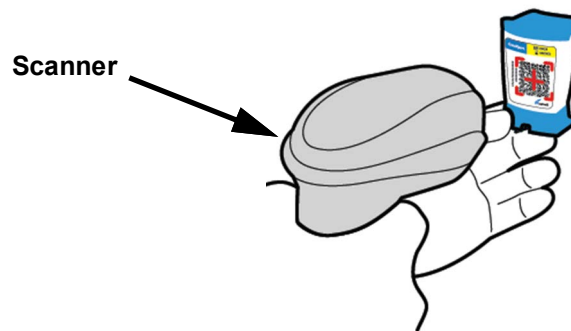

Figure 5-16. Scanning a Cartridge Barcode
Using the hand-held scanner is similar for all scanning operations, such as scanning the Patient ID, the Sample ID and the cartridge barcode, although this section describes the scanning of the cartridge barcode. See Figure 5-16.
1. Scan the barcode by holding the scanner about 8 to 10 inches from the barcode, aligning the laser on the scanner to the barcode image. Figure 5-16 shows a cartridge barcode being scanned.